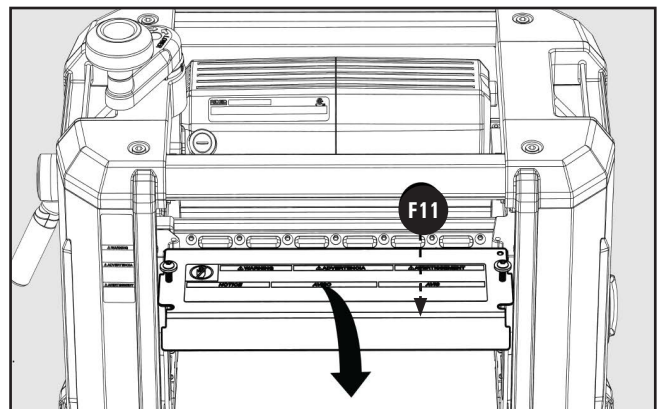

FIGURE 7
3. Remove the dust deflector **F11**. See Figure 7.